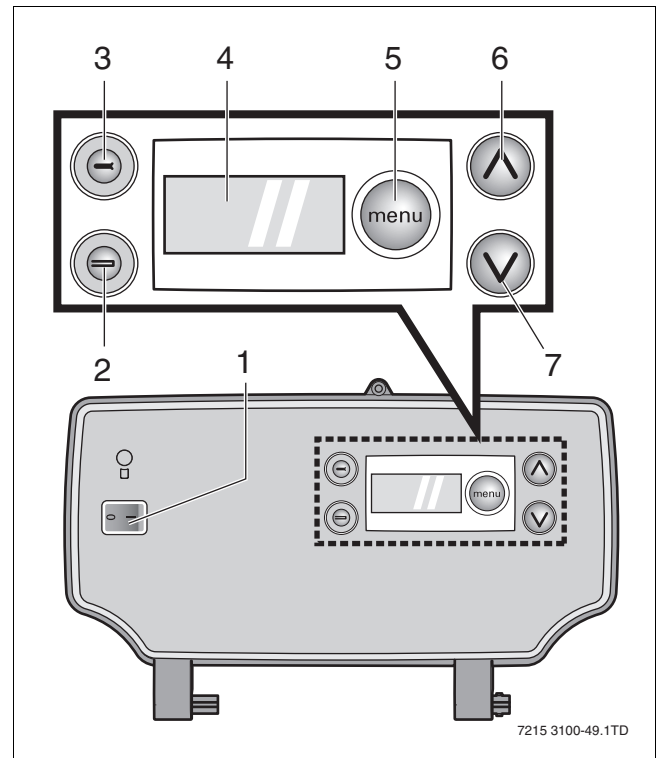

Fig. 49 DBA
1. Mains switch (→ fig. 49)
2. Reset button (→ fig. 49)
3. Service button (→ fig. 49)
4. Display (→ fig. 49)
5. Menu button  (→ fig. 49)
6. and 7. Up  and Down  keys (→ fig. 49)
- Press  button (→ fig. 54, item 2) four times then adjust the flow temperature to the desired temperature (30 °C – 80 °C) using the  and  keys (→ fig. 49, item 1). Factory setting is 80 °C.